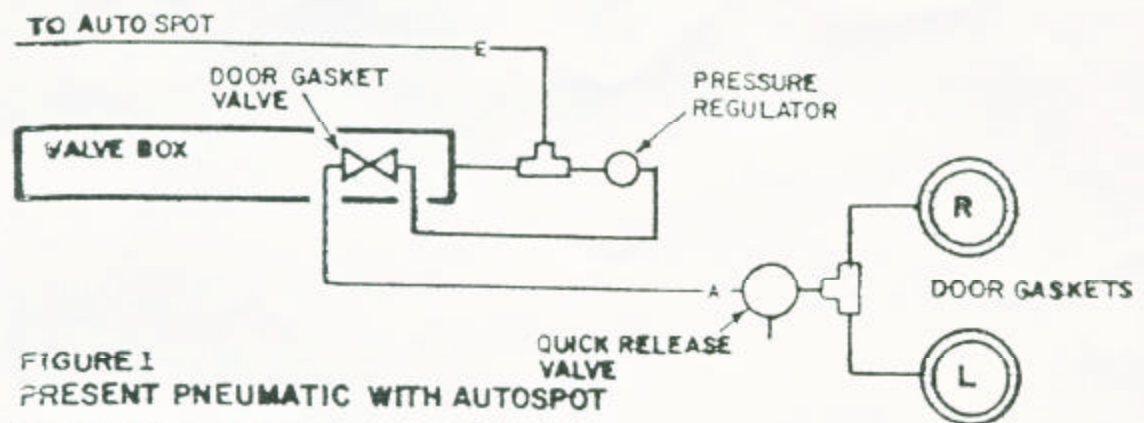

FIGURE 1
1. Disconnect air line "A" (See Fig. 1 & 2).
- a. Disconnect air line "E" (See Fig. 1).